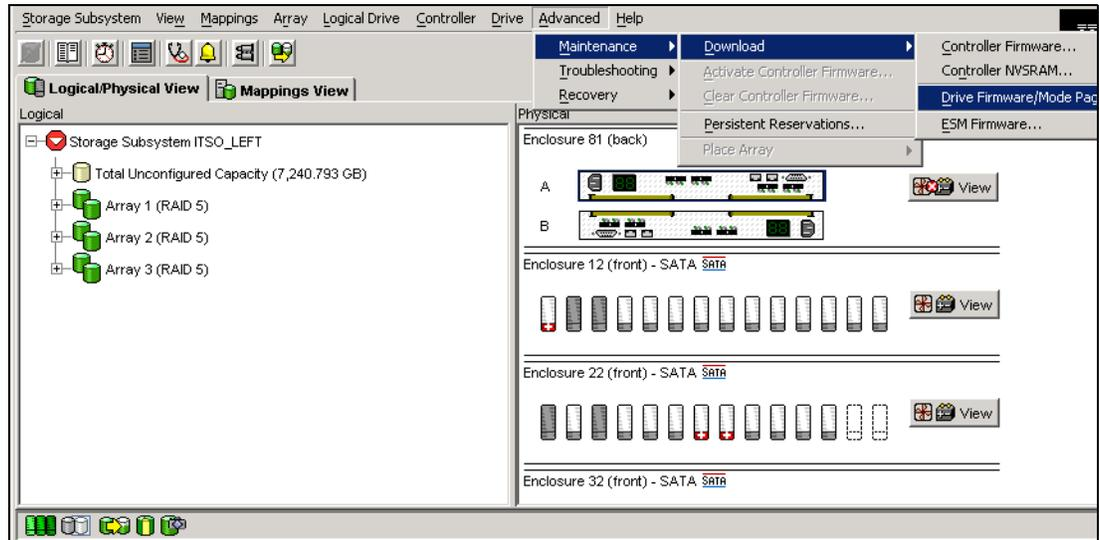

Figure 12-19 Subsystem Management window: Drive firmware update
1. Select **Advanced** → **Maintenance** → **Download** → **Drive Firmware/Mode Pages**, as shown in Figure 12-19.